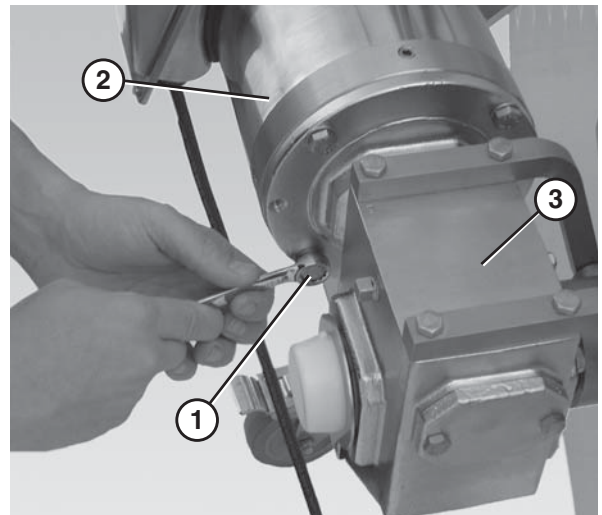

Figure 31
5. Remove the bolts (Figure 31, item 1) that connect the motor (Figure 31, item 2) to the gear reducer (Figure 31, item 3) (horizontal drive shown in figures).